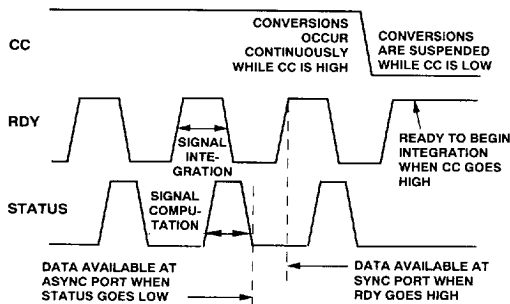
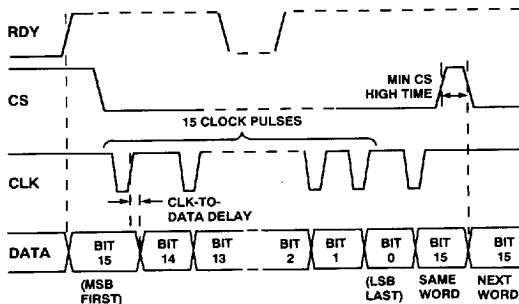

Figure 2a. Continuous Conversion
Figure 4. Reading Data from the Synchronous Port
In normal operation, the Continuous Conversion (CC) Pin is high, and the AD1B60 performs continuous conversions, alternating between signal conversions and background conversions, such as autozero or cold junction compensation (see Figure 2a).
Using the CS (chip select), CLK (clock input), and DATA (data output) pins of the AD1B60, you can read data at speeds up to 5 Mbps (see Figure 4). When RDY goes high at the beginning of a conversion cycle, the MSB of the previous data word appears at the DATA output (see Figures 2a and 2b). Bringing CS low freezes the data in the synchronous port buffer. Results of other conversions won't be transferred to the synchronous port buffer while CS is low. 15 CLK pulses will read out the remaining bits of the word in the synchronous port buffer. Further CLK pulses will continue to read out the same data bits from this circular buffer.